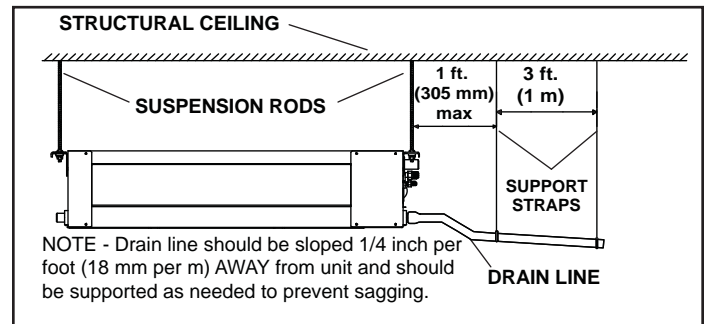

Figure 9. Sloped Condensate Drain -- Single Unit
- See figure 9 for applications including a single unit and a single drain. In this case, ensure that the drain line is properly sloped (no less than 1/4 inch per foot) and condensate lines are routed to ensure moisture is drained away from the indoor unit.